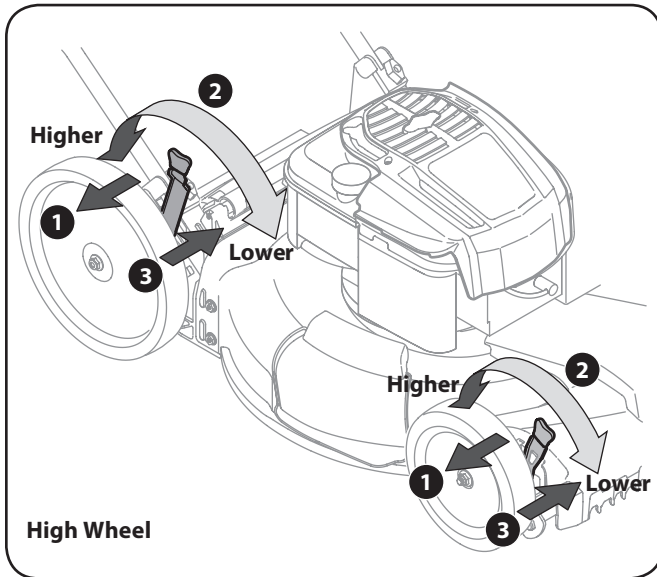

Figure 3-11
2. Move lever to desired position for a change in cutting height. See Figure 3-10 and Figure 3-11.